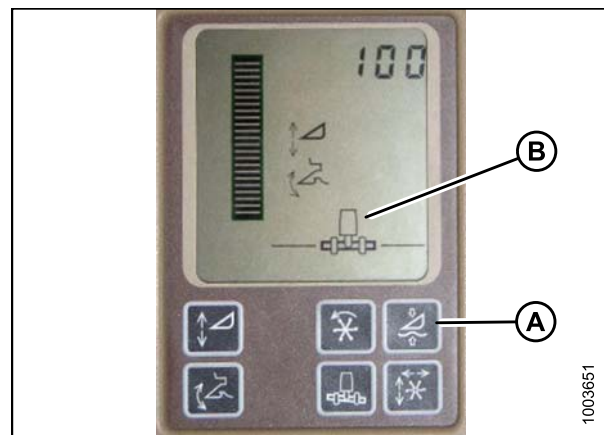

Figure 6.85: John Deere Combine Display
Do **NOT** use the active header float function (A) in combination with the MacDon auto header height control (AHHC)—the two systems will counteract one another. The header symbol (B) on the display should NOT have a wavy line under it and should appear exactly as shown on the Active Header Control Display in Figure 6.85: *John Deere Combine Display*, page 183.